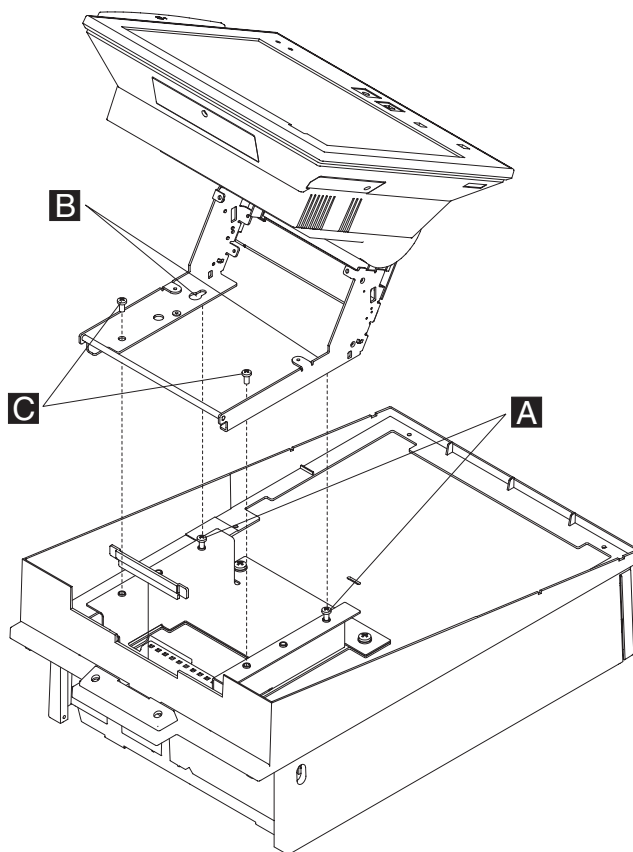

Figure 50. Removing the SurePOS 500/600 onto the integration tray
6. To remove the **SurePOS 500/600** from the keyboard integration tray, see Figure 50 for callout locations and perform the following steps:
- a. Loosen the two screws **A** that are located through the SurePOS 500/600 base bracket interlocking keyholes **B**, as shown in Figure 50.